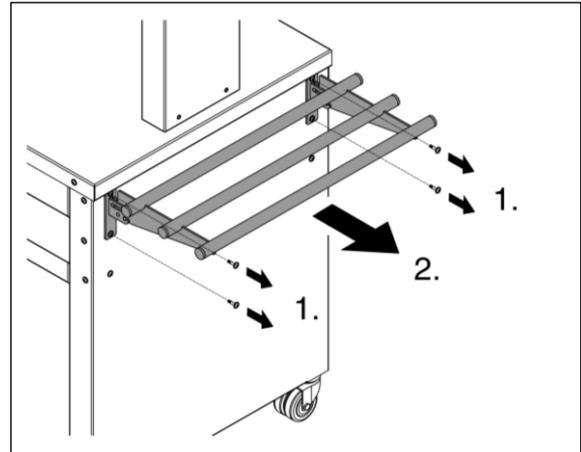

Fig. 1
2. If applicable, remove side face shelves. Unscrew fastening screws (1.) and remove side face shelf/shelves (2.). **Fig. 1**